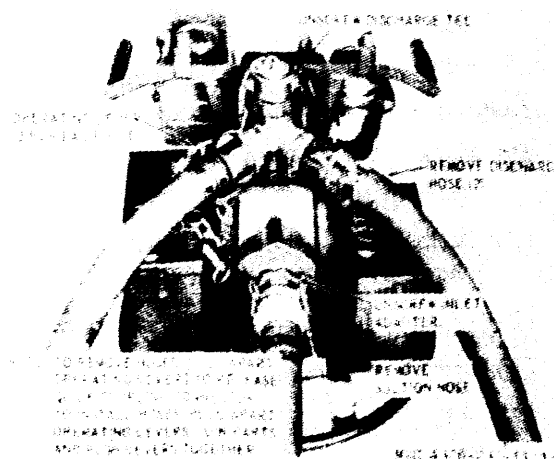

Figure 33. Hoses and fittings, removal and installation.
a. *Removal.* Refer to figure 33 and remove the hoses and fittings.
- (1) Flush the hoses with an approved cleaning solvent which will not attack the rubber material from which they are fabricated. Wipe the exterior of the hoses with a cloth dampened with an approved cleaning solvent. Clean all fittings by immersing in solvent.
- (2) Inspect the suction hoses for cracks, leaks, signs of deterioration, worn or damaged fittings, collapsed walls, and other damage.
- (3) Inspect the discharge hoses for cracks, leaks, signs of deterioration, worn or damaged fittings, and other damage.
- (4) Inspect the discharge tee and inlet adapter for damage which could affect the sealing characteristics of the part.
- (5) Check that every female connector has a mating plug and that every male connector has a cap to prevent entry of dirt. Replace all damaged and missing parts.
c. Installation. Refer to figure 33 and install hoses and fittings